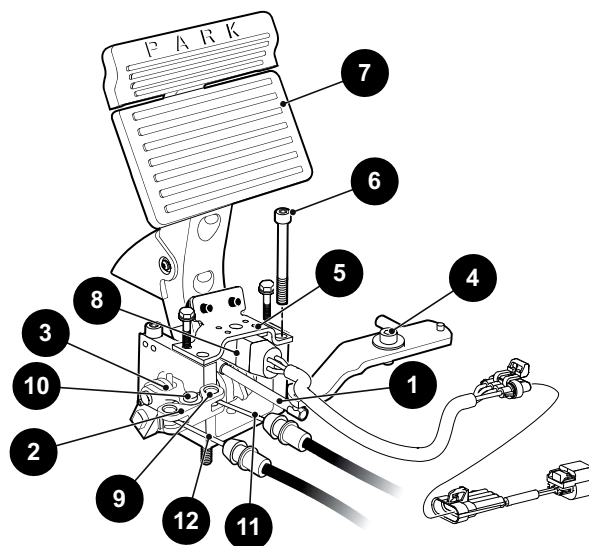

Figure 19 Brake Pedal
3. Remove four screws (6) securing the brake pedal assembly to the floorboard. (Figure 19)
4. Disconnect the wires from the brake enable switch (8).
5. Disconnect the accelerator pedal kick-off linkage (1) from the cam by removing the bolt (4).
6. Disconnect the equalizer (2).
7. Remove the c-clip (10) from the pivot pin (9) to release the equalizer and brake cables.
8. Place pedal assembly in position on the floorboard and secure with four socket head bolts (6) and tighten to torque value specified below.